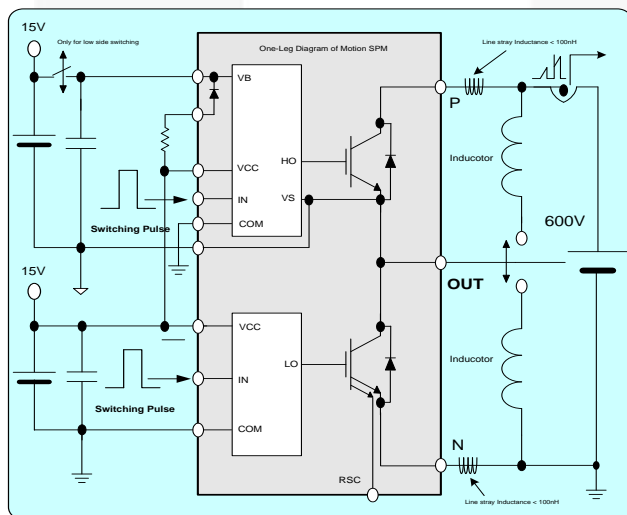
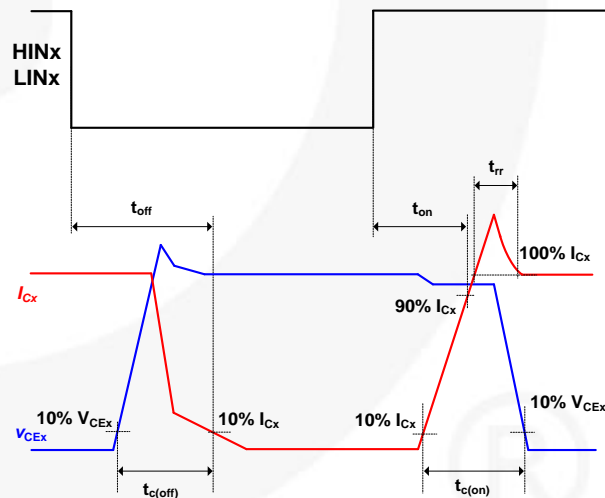

Figure 6. Switching Evaluation Circuit
Figure 7. Switching Time Definition
4. t_{ON} and t_{OFF} include the propagation delay of the internal drive IC. $t_{C(ON)}$ and $t_{C(OFF)}$ are the switching times of the IGBT itself under the given gate driving condition internally. For the detailed information, see Figure 6 and Figure 7.